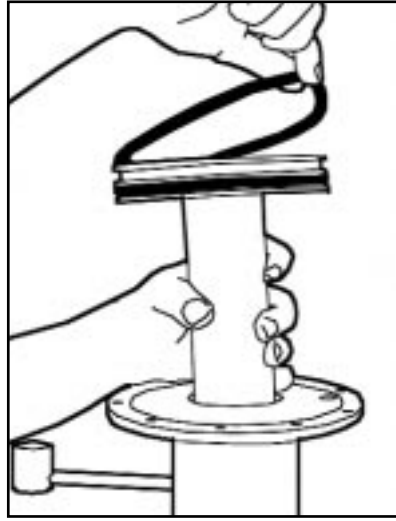

Figure 55
3. For all pumps except the P1500W400, remove the piston plunger assembly and the two O-rings. For the 1500W400 pump, remove two U-cups instead of the O-rings in this step. (Fig.55)